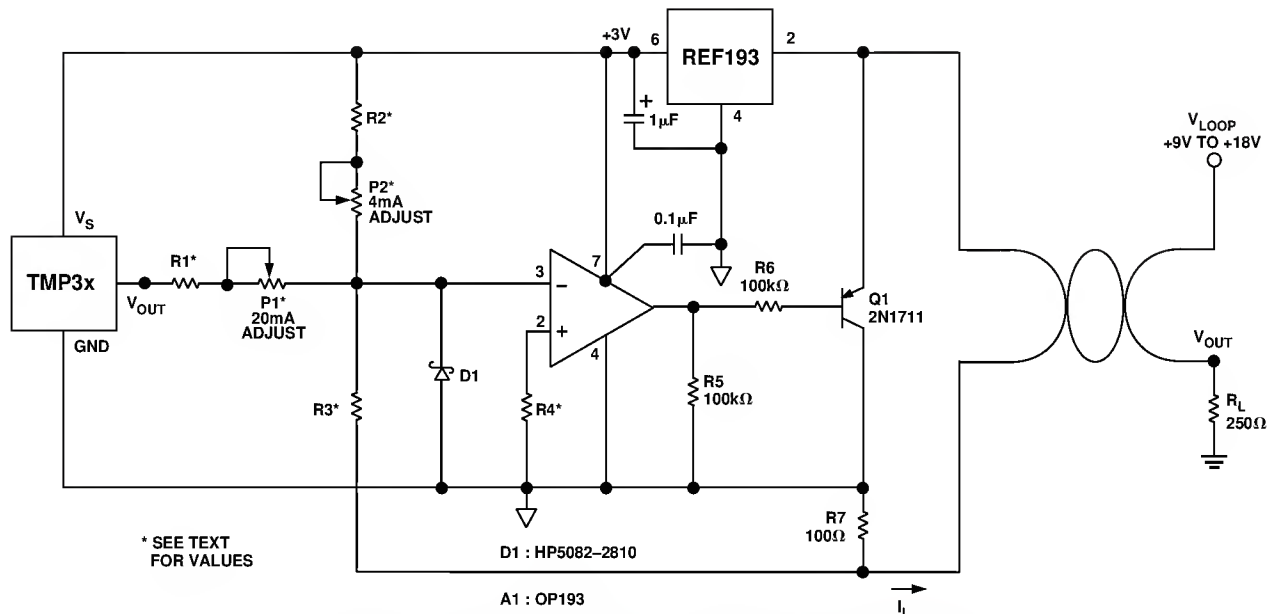

Figure 25. A Temperature to 4-to-20 mA Loop Transmitter
A circuit that transmits temperature information in this fashion is illustrated in Figure 25. Using a TMP3x as the temperature sensor, the output current is linearly proportional to the temperature of the medium. The entire circuit operates from the +3 V output of the REF193. The REF193 requires no external trimming for two reasons: (1) the REF193’s tight initial output voltage tolerance and (2) the low supply current of TMP3x, the OP193 and the REF193. The entire circuit consumes less than 3 mA from a total budget of 4 mA. The OP193 regulates the output current to satisfy the current summation at the non-inverting node of the OP193. A generalized expression for the KCL equation at the OP193’s Pin 3 is given by: